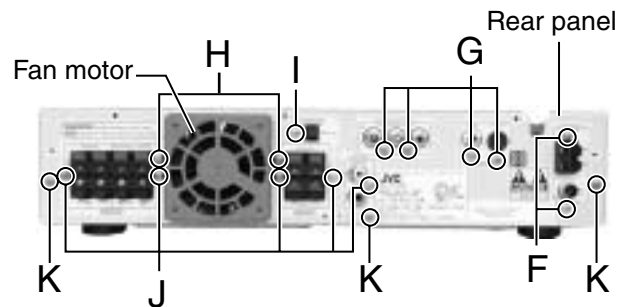

Fig.7
■ Removing the rear panel (See Fig.7 and 8)
■ Removing the tuner pack (See Fig.7 and 8)
■ Removing the jack board (See Fig.7 and 8)
■ Removing the fan motor (See Fig.7 and 8)
4. Remove the one screw **I** attaching the DSP board to the rear panel (see fig.7).
3. Remove the five screws **J** attaching the speaker terminals and jack to the rear panel (see fig.7).